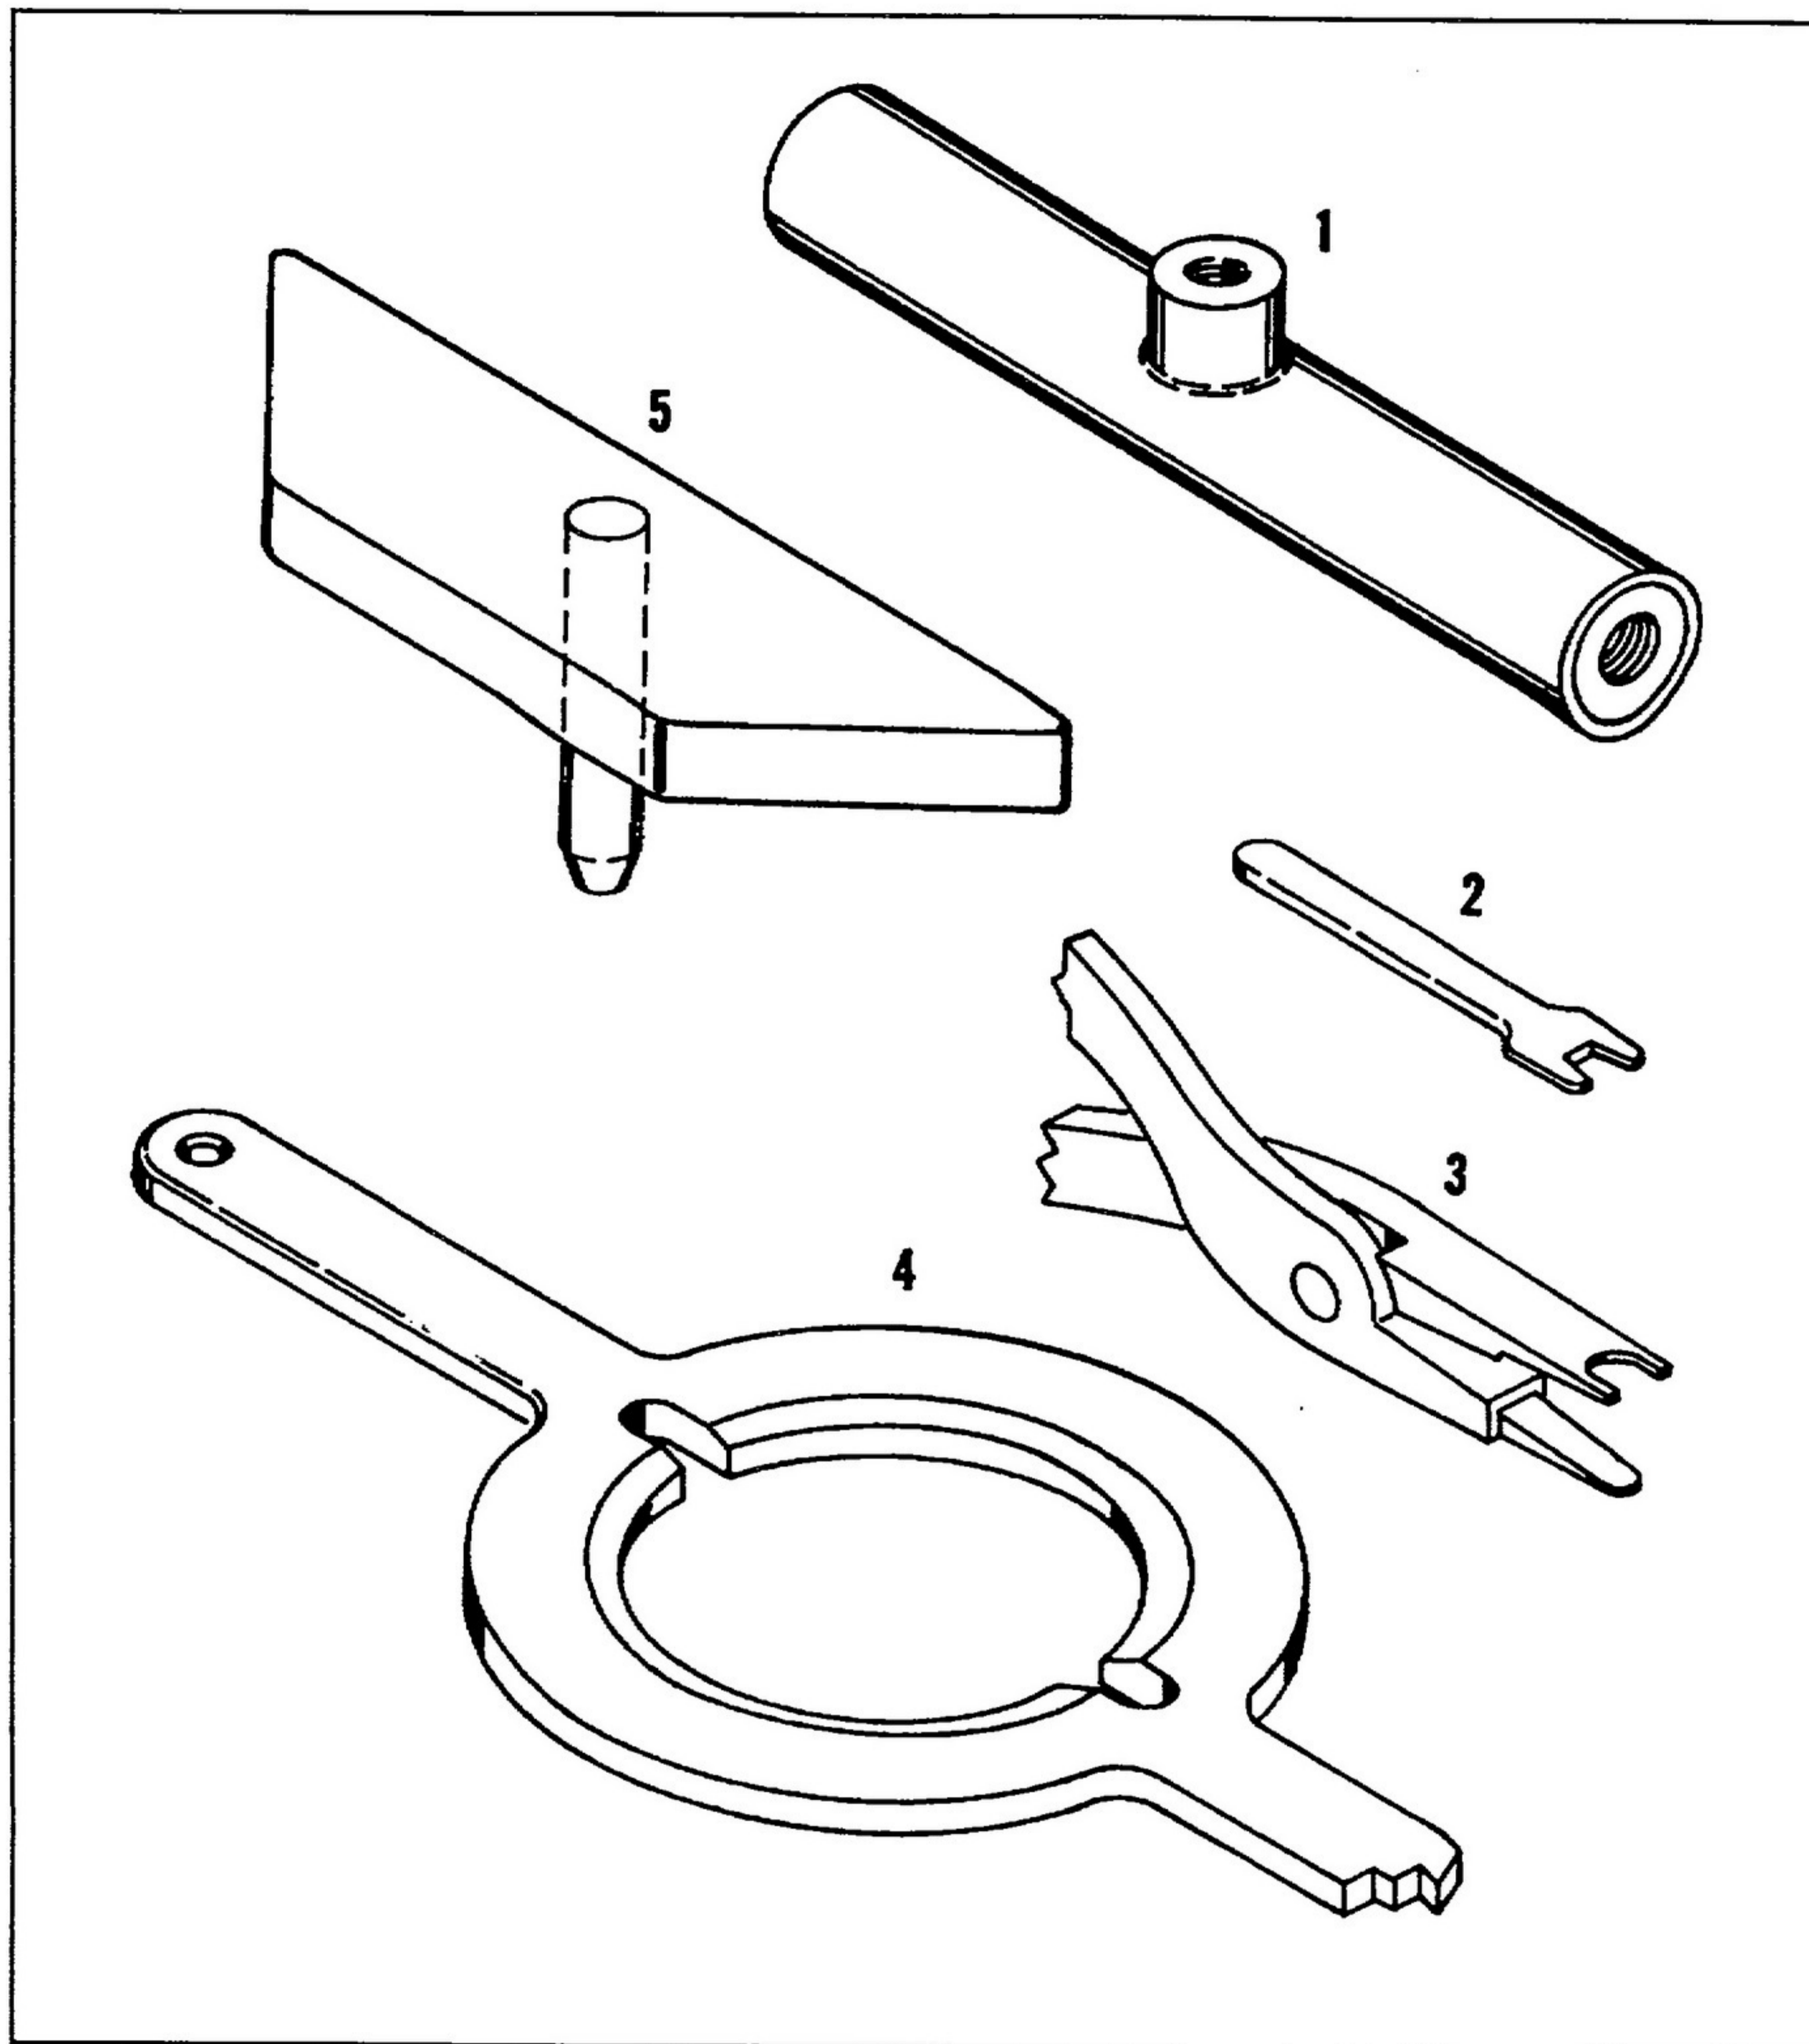

Figure 901: Special Tools and Test Equipment
A list of special tools and/or equipment required for assembly of the 27660 Series Oxygen Regulator Assemblies is presented in Table 701. Entries in the "ITEM NO." column refer to the tool illustrations presented in Figure 901. Equivalent tools and/or equipment may be substituted for the listed items.
F. Place the unit assembled in step E into the inlet port of the regulator body assembly and finger tighten this unit into shaft (235) until valve (165) just bottoms on seat (175). Install retainer (170); torque retainer to **35-40 IN LBS (4.0-4.5 Nm)**.
G. Place link positioning gauge (5, Figure 901) on shoulder of case just inside threaded area; position gauge so that pin rests on joint of link (215, IPL Figure 1) near center of case. Note position of pin in relation to bar of gauge; back out valve (165) until top of pin is flush with bar.
H. Remove the gauge and tighten nut (180) against shaft (235) using open end wrench (2, Figure 901). Recheck indication of gauge after tightening nut.
I. Compress spring (200, IPL Figure 1) and press spacer (130) into place using pliers (3, figure 901). Check that spacer is secure and maintains the spring in a compressed position.
K. While holding plate (110) firmly with a standard spanner wrench, install nut (105) on actuator link (220); torque nut to **35 IN LBS (4.0 Nm)**.
L. Place spring (100) onto plate (110), and place guide (95) on spring (100 or 100A). Boss of guide (95) must fit into spring.
N. Align diaphragm assembly (125) so that it is concentric with regulator body. SPARINGLY apply a thin film of oxygen lubricant to the metal ring of diaphragm. Thread cap (85, 90 or 91) into regulator body (275 or 280) using spanner wrench (4, figure 901). When properly installed, all threads of the cap will be below top of regulator body.
O. SPARINGLY apply a thin film of oxygen lubricant to packing (265); install packing on plug (260). Install plug in regulator body (275 or 280).
Q. Secure identification plate (75) to cap (85, 90 or 91) with screws (80).
R. Attach nameplate (60) to cap (85, 90 or 91) and lockwire the cap to the regulator body per the applicable instructions of MS 33540.
S. Place nipple (140) into nut (145); torque nut to **300 IN LBS (33.9 Nm)**. SPARINGLY lubricate the internal threads of nut (135) with oxygen lubricant and thread the nut onto nipple (140). SPARINGLY lubricate ring (150) with oxygen lubricant and place the ring against nut (135). Position packing (155) on ring (150) after lubricating the packing SPARINGLY with oxygen lubricant. Press filter (160) into regulator inlet port and then thread nipple (140) into port. Secure nipple and then tighten nut (135) against regulator body (275 or 280).
T. Thread nut (245) onto elbow (240) and place packing (250) against nut (245) after lubricating the packing SPARINGLY with oxygen lubricant. Thread elbow (240) into regulator outlet port and secure nut (245) against regulator body.
Special test equipment required for testing of the 27660 Series Oxygen Regulator Assemblies are presented in Table 901. Special tools and/or equipment required for assembly/disassembly of the Oxygen Regulator Assemblies are listed in Table 902. Figure 901 illustrates some of the special tools test equipment listed in Tables 901 and 902.